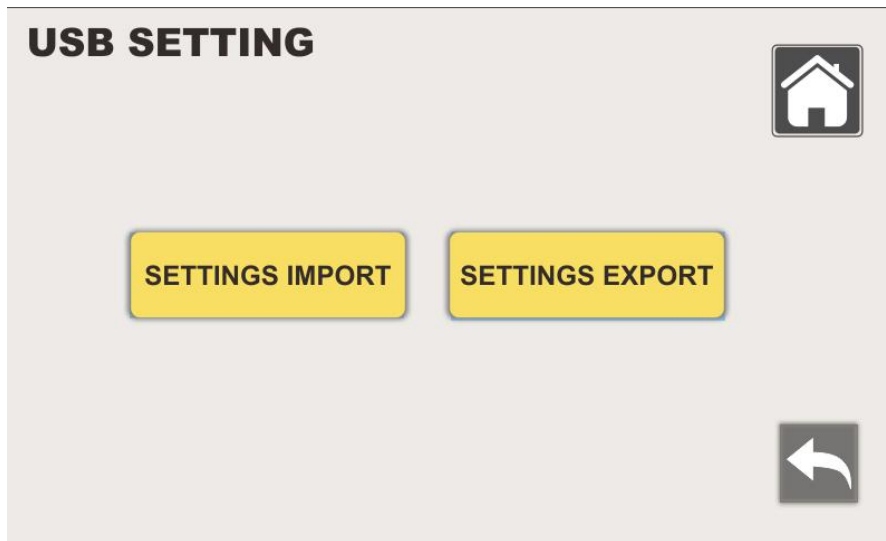

Figure 21.USB SETTING
1. Level 3 and level 4 users can use the Type-C cable and software to configure and produce a DAT file, which can be imported into the upper panel computer software. Or use the upper panel computer software to export the DAT file, and then use the Type-C cable and software to download it to the panel computer. As shown in Figure 21, 'SETTINGS IMPORT' is to download the DAT configuration to the panel, 'SETTINGS EXPORT' is to save the configuration to the DAT file.